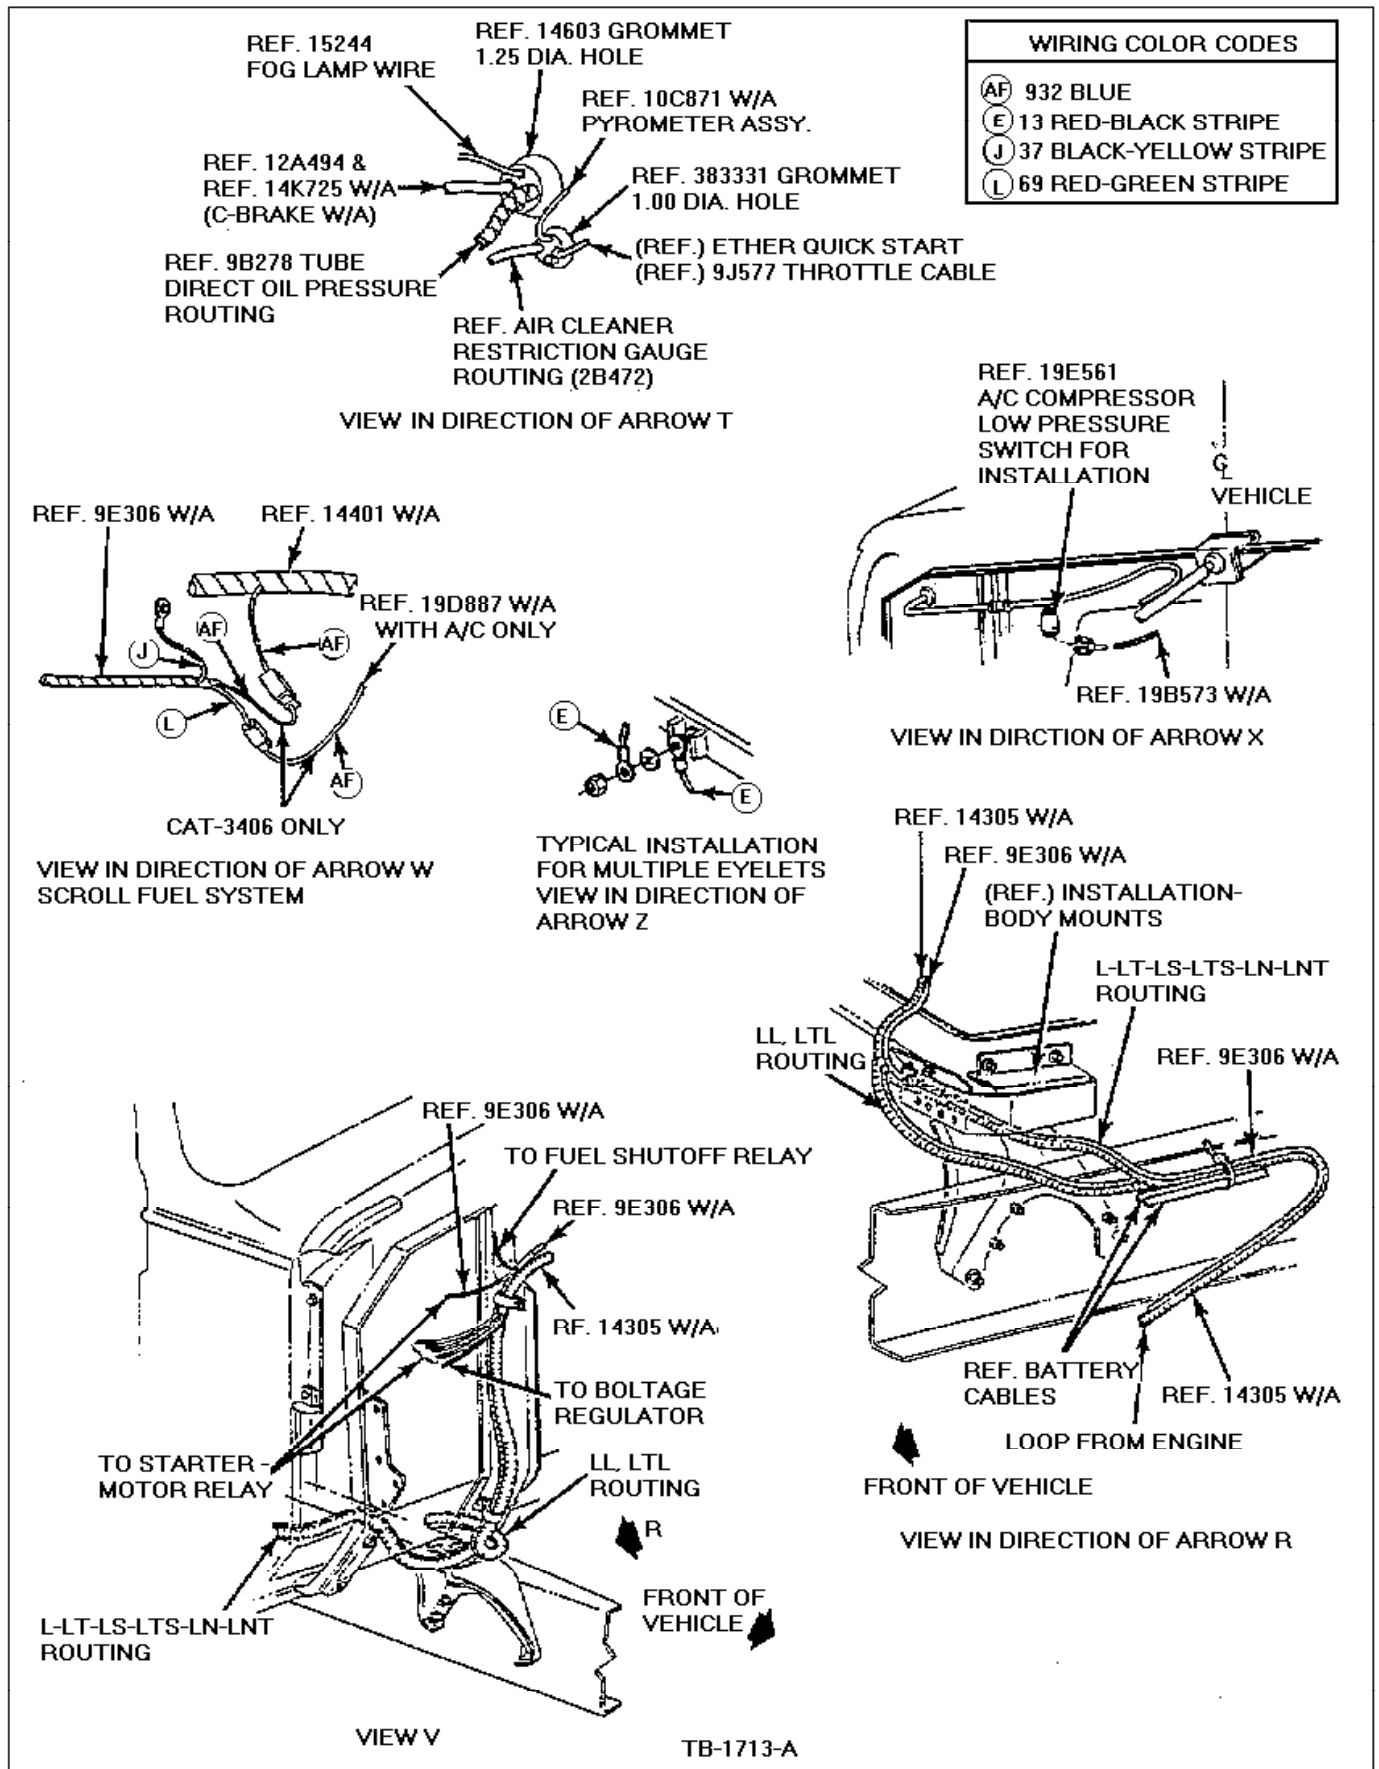

Figure 4 - Article 90-17-13
- Figure 4 shows proper wiring harness routing around the frame.